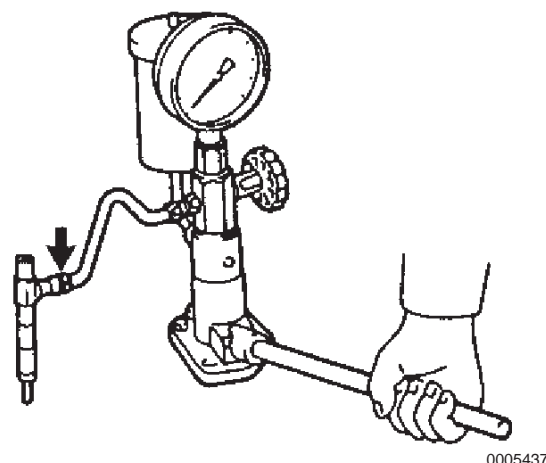

Figure 6-39
3. Install the fuel injection valve to the nozzle tester and bleed the air out from the union nut (**Figure 6-39**). **WARNING! Never put your hands over the nozzle injection hole.**